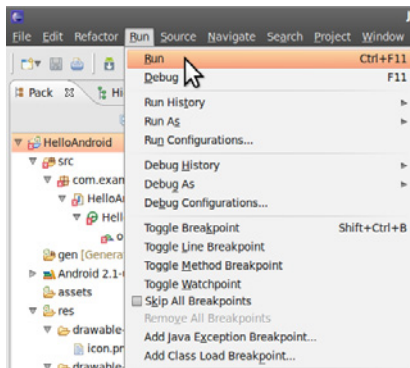

Figure 6-16. Running the project
8. Run the program by clicking the green Play button in the toolbar or by choosing Run →Run (Ctrl-F11), as shown in Figure 6-16.